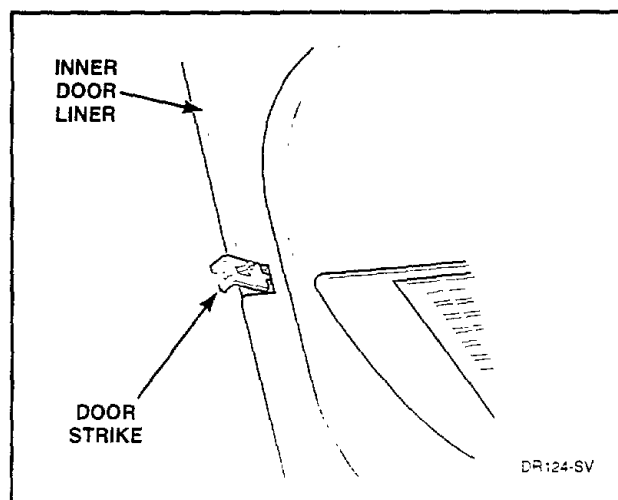

Figure 18
- Remove door strike from door liner and reinstall strike on opposite side, *Figure 18*.